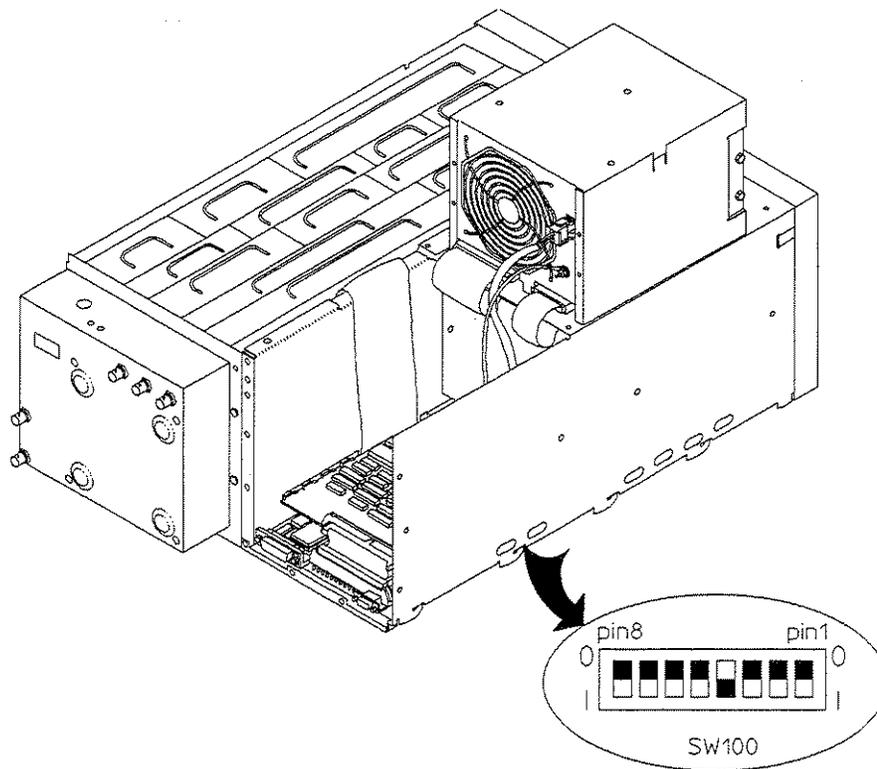

Figure 5-1. Normal Setting for A81 SW100
2. On the CPU assembly, check that SW100 pin 4 is set to 1 and all other pins are set to zero (see figure 5-1).